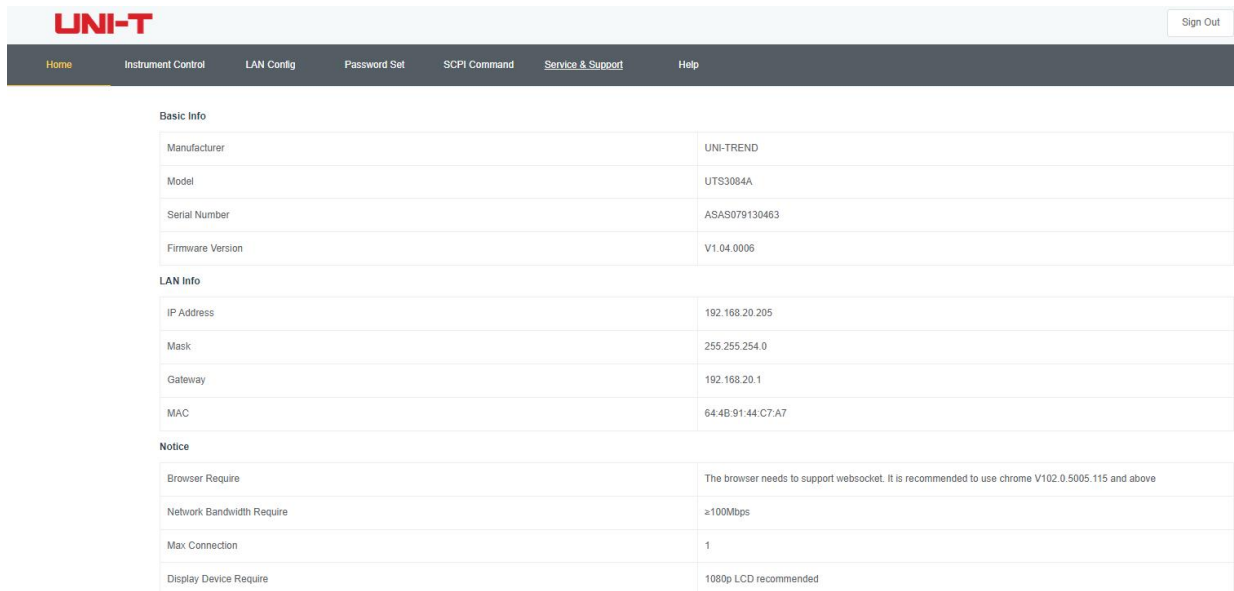

Figure 4-4 Web Basic Information
- PC browser using 192.168.20.117 to access the signal analyzer can check the basic information and operate the instrument control, internet settings, password settings, and SCPI control, as shown in Figure 4-4.